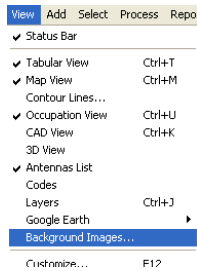

Figure 2-56. To Georeference an Image – Click View ▶ Background Images
1. Click **View ▶ Background images** (Figure 2-56 on page 2-46).